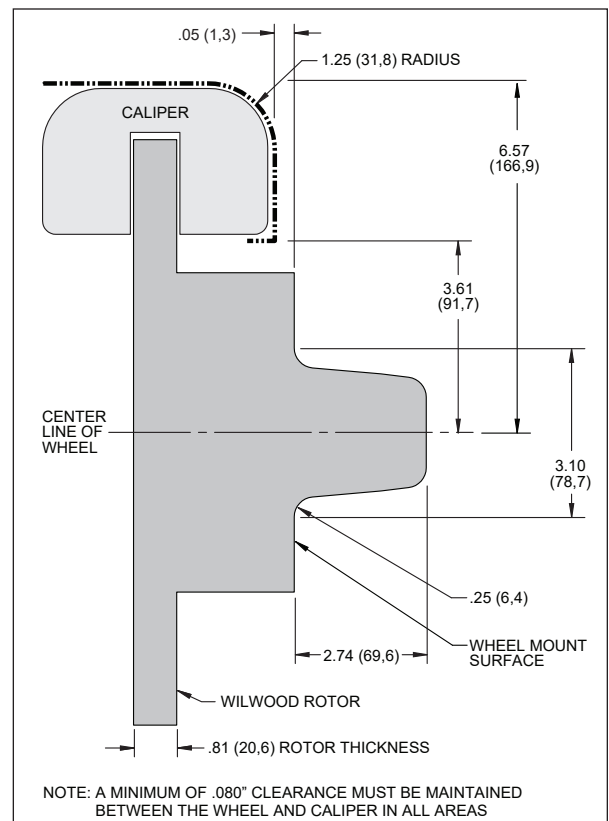

Figure 2. Wheel Clearance Diagram
- Review the Wheel Clearance Diagram (Figure 2, page 3) to verify that there is adequate clearance with the wheels you will be using with the installation.
- Verify wheel clearance utilizing Figure 2.
- WARNING:** The wheel contact surfaces must seat completely on the face of the hub. If any contact surfaces overhang the outside diameter of the hub face, a 6.60" diameter x .20" thick steel spacer (item 22, Wilwood P/N 300-11961) MUST be used between the wheel and the hub.